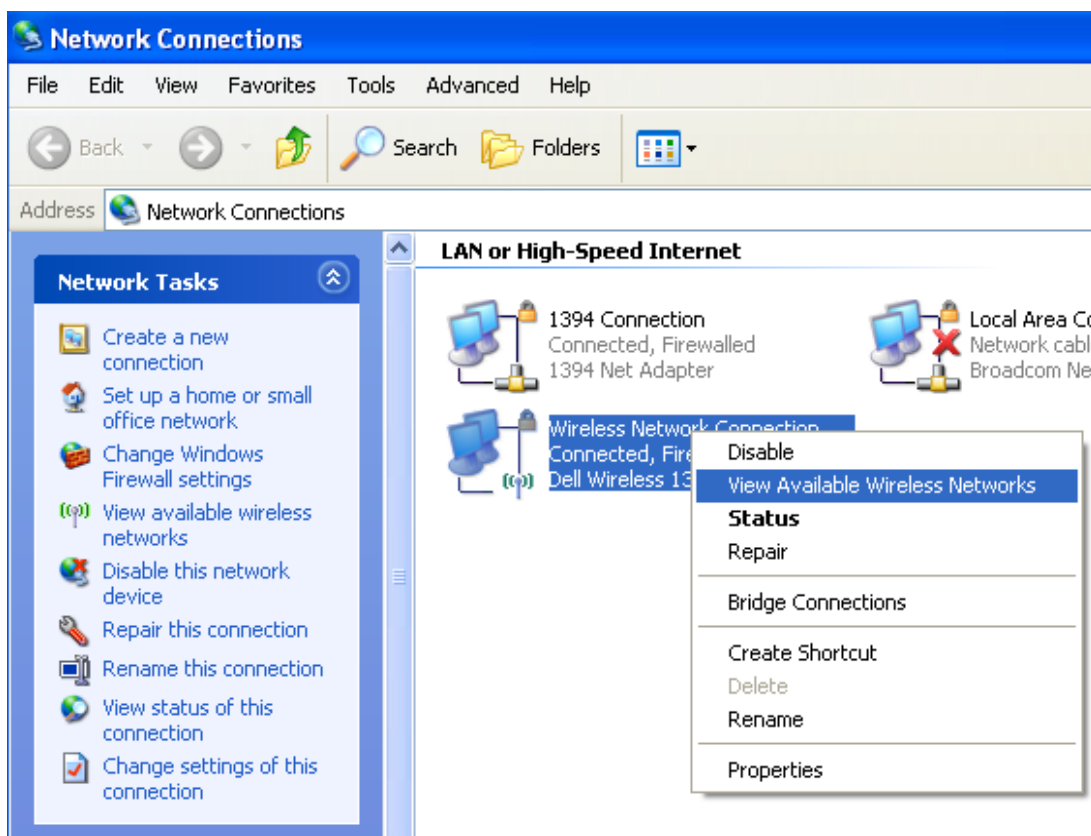
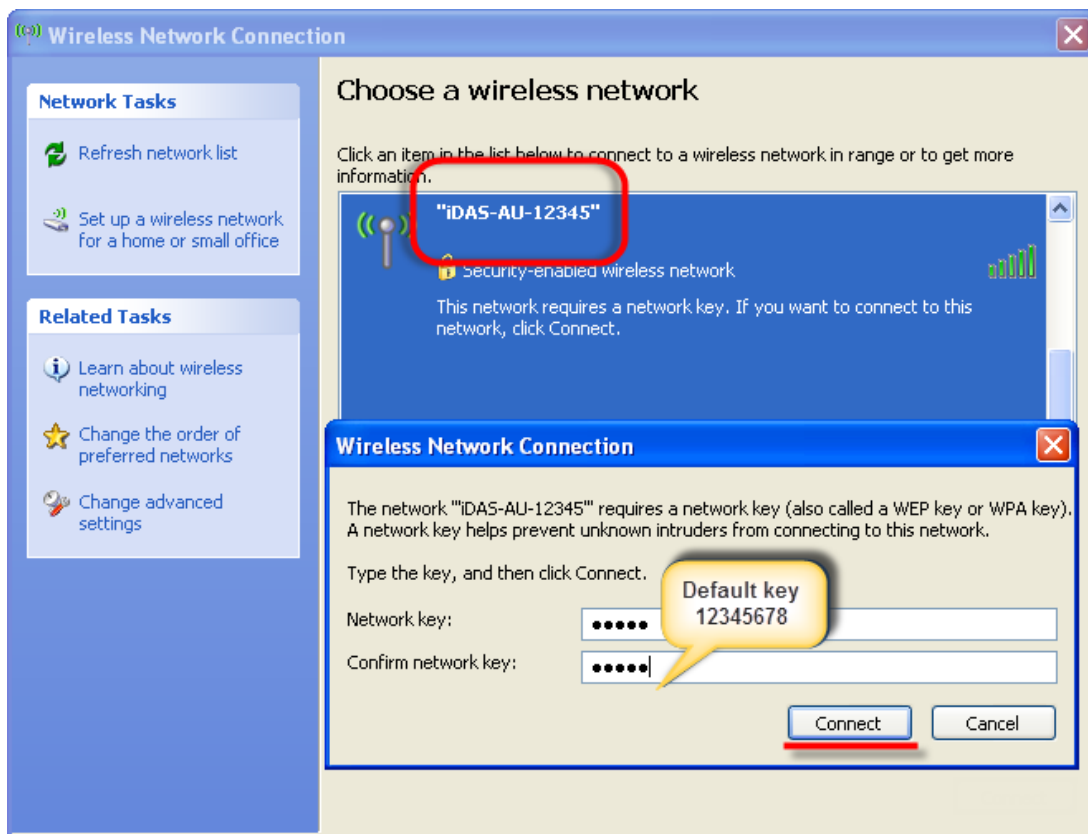

Figure 2-6 Viewing the Available Wireless Networks
Figure 2-7 Choosing the Correct Wireless Network
- See Figure 2-6 and Figure 2-7 for details.